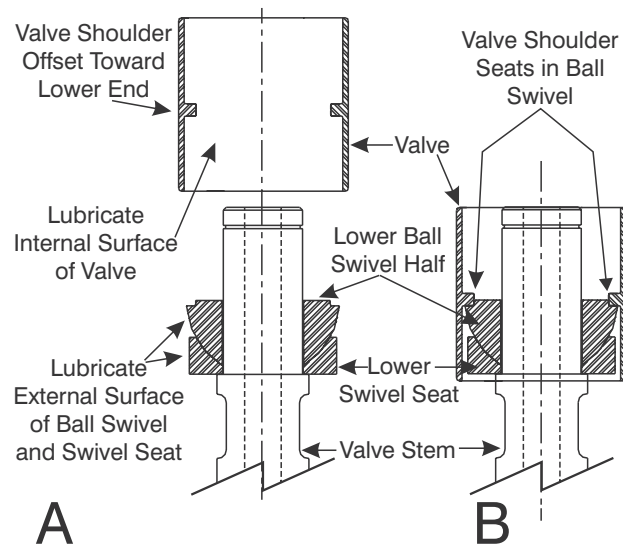

Figure 9-10. Install Valve.
6. Refer to Figure 9-10-A and inspect the Valve (7). The inner shoulder is closer to one end. That end slides onto the Valve Stem first.
7. Refer to Figure 9-10-A. Lubricate the inside of the Valve and the exterior of the lower Ball Swivel half and Swivel Seat.
8. Position the Valve (7) over the lower Ball Swivel half and Swivel Seat as shown in Figure 9-10-A.
9. Slide it onto the Valve Stem (8) until the internal shoulder touches the installed lower half of the Ball Swivel (6), as shown in Figure 9-10-B.